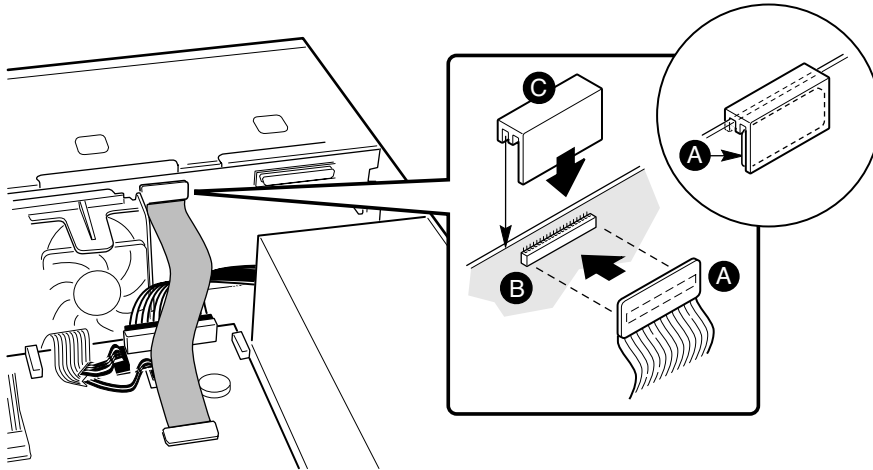

FIGURE 5-46 Installing the Backplane Retention Clip
To replace cables, remove the cover and refer to Figure 5-43 through Figure 5-46 when following these steps:
2. Install the flex cable retention clip on the SCSI backplane as shown in Figure 5-46.